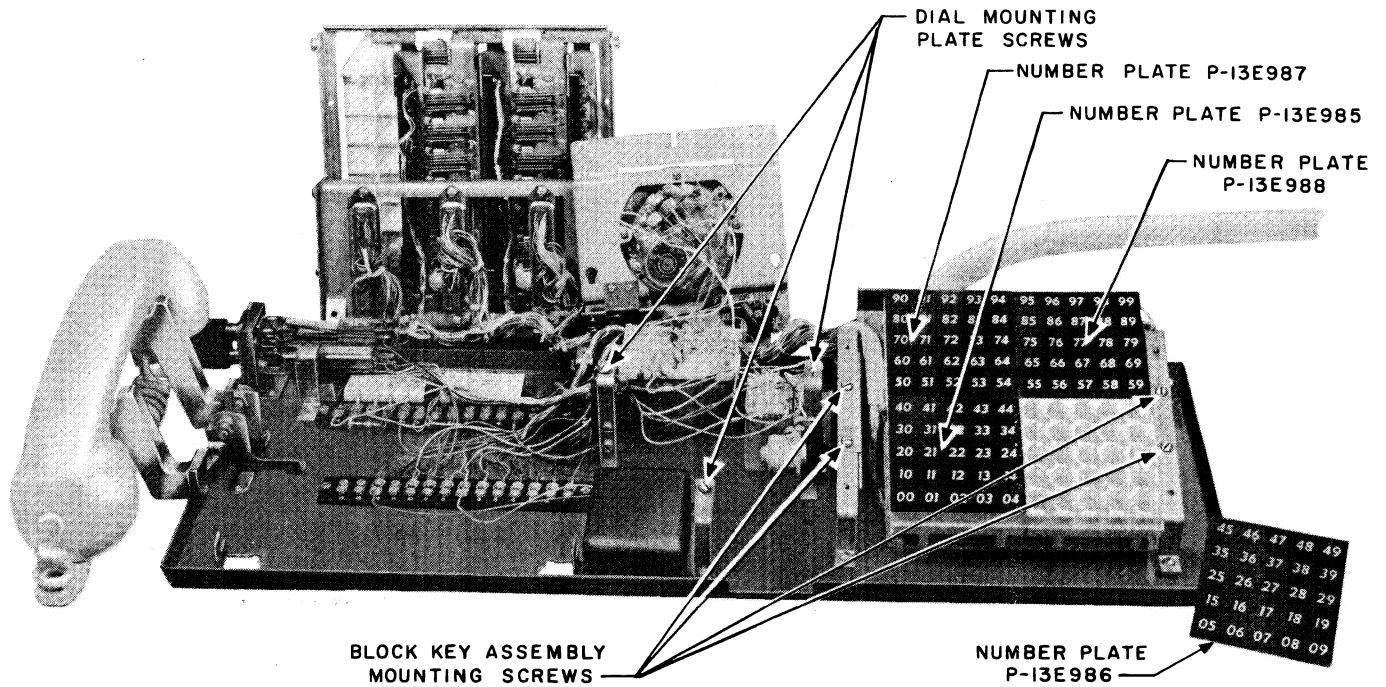

Fig. 4 — 6A1 Telephone Console (Dismantled)
2. Loosen screws on dial mounting plate (see Fig. 4).
### 3.11 The number plates for the block key assembly are covered in Fig. 4.